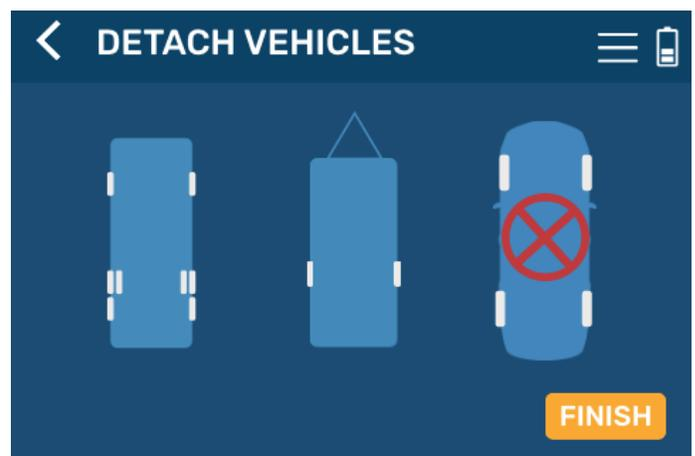

Fig.27
4. Select another vehicle to detach or tap **FINISH** (Fig.27) to return to the main tire pressure screen.
NOTE: The red X on a vehicle indicates the vehicle is detached (Fig.27).